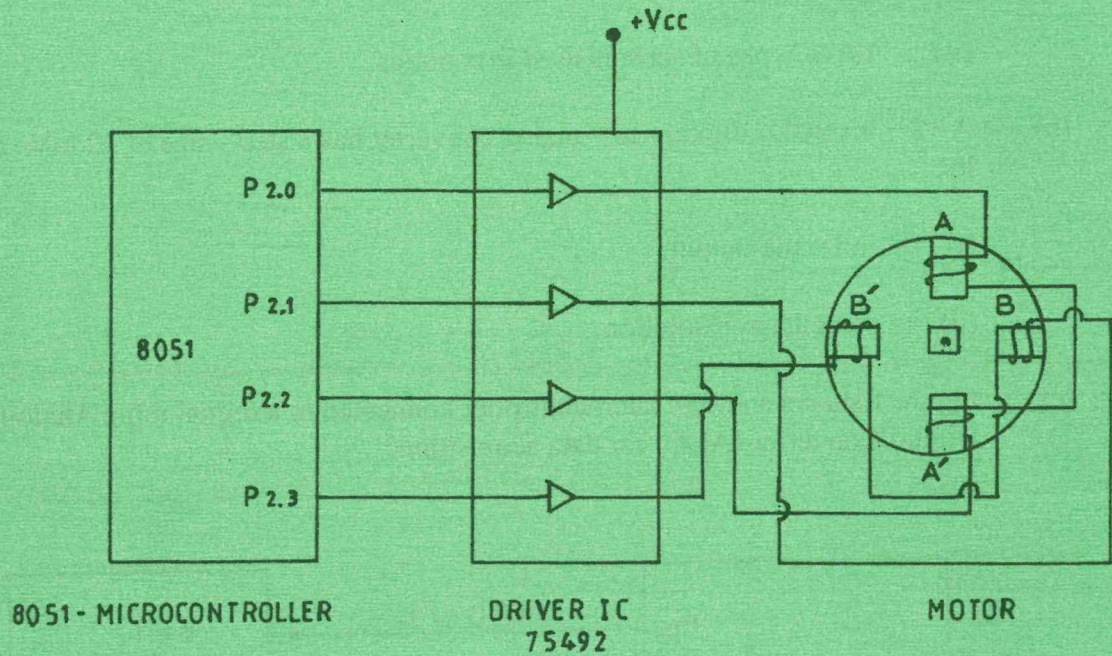

Fig. 2
- (b) (i) Figure 2 shows a stepper motor interfaced to an intel 8051 microcontroller. Describe how the motor is controlled to step in clockwise direction.